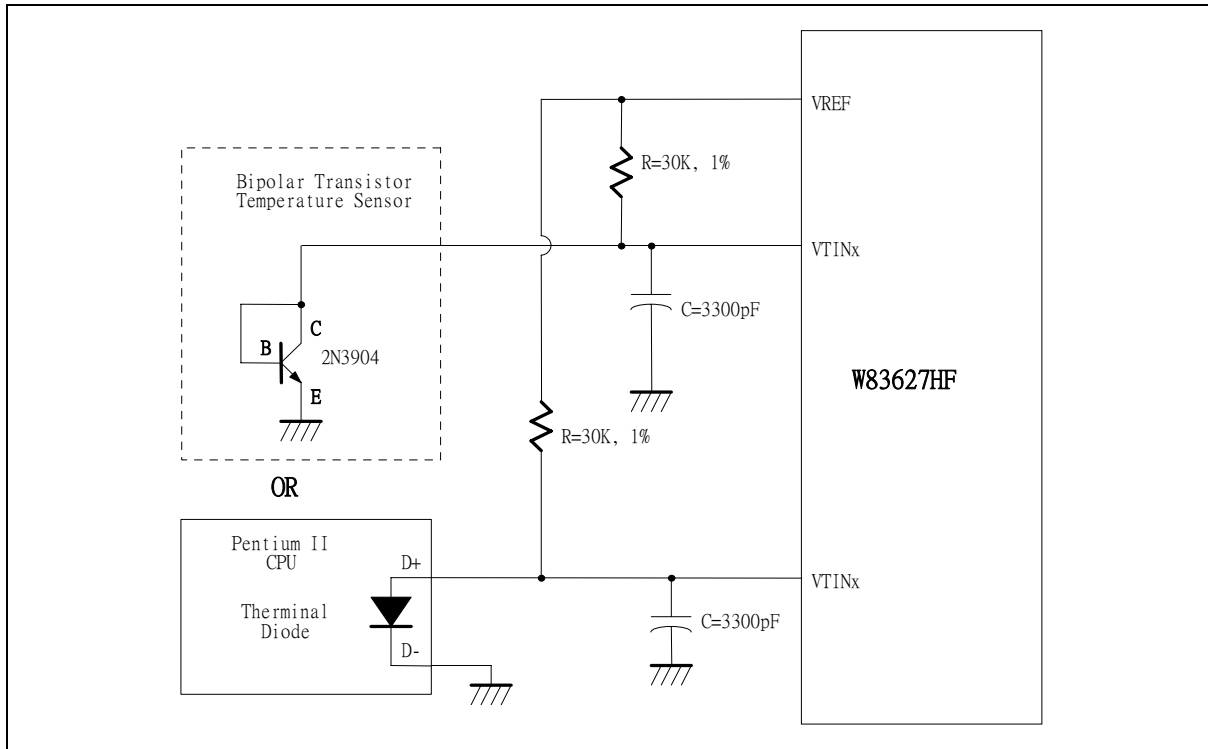

Figure. 8.3
The W83627HF can alternate the thermistor to Pentium II™ (Deschutes) thermal diode interface or transistor 2N3904 and the circuit connection is shown as Figure 8.3. The pin of Pentium II™ D- is connected to power supply ground (GND) and the pin D+ is connected to pin VTINx in the W83627HF. The resistor R=30K ohms should be connected to VREF to supply the diode bias current and the by-pass capacitor C=3300pF should be added to filter the high frequency noise. The transistor 2N3904 should be connected to a form with a diode, that is, the Base (B) and Collector (C) in the 2N3904 should be tied together to act as a thermal diode.